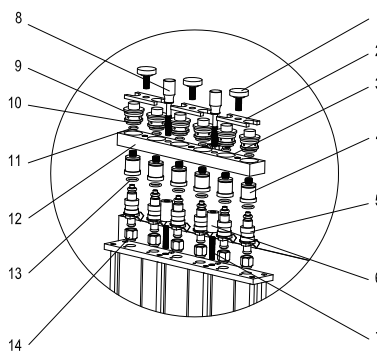

Fig. 07
- Install the fuel distributor and the injector on the fuel distributor supporter with a proper adjustable screw and knurled nuts, and tighten two raffle screws (black). See Fig. 07.